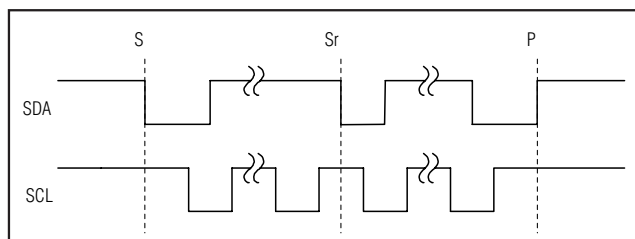

Figure 5. START and STOP Conditions
The master initiates a transmission with a START (S) condition, a high-to-low transition on SDA while SCL is high. The master terminates a transmission with a STOP (P) condition, a low-to-high transition on SDA while SCL is high (Figure 5). A repeated START (Sr) condition can be used in place of a STOP condition to leave the bus active and the interface mode unchanged (see the *HS Mode* section).